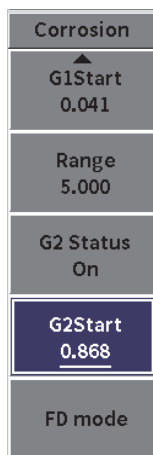

Figure 11-45 Corrosion sidebar menu (G2Start)
1. On the Corrosion sidebar menu, highlight **G2Start** (see Figure 11-45 on page 226).